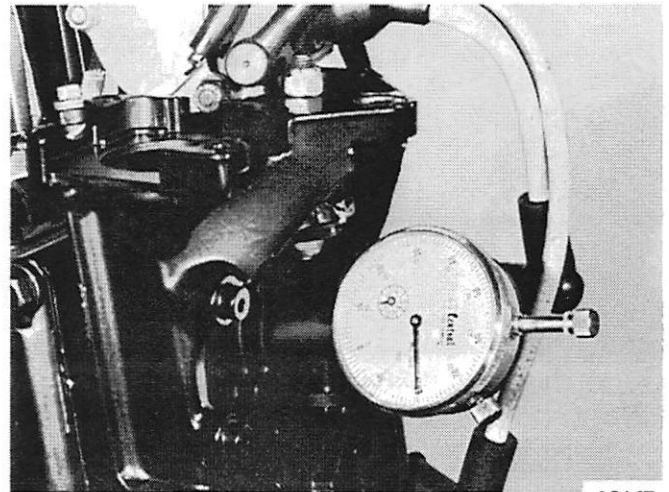

Figure 2. Dial Indicator Installed
5. Rotate crankshaft clockwise to determine TDC of piston and set dial indicator to 0°. (Figure 2)
6. Rotate crankshaft counterclockwise to place dial at .196" BTDC. (Figure 2)